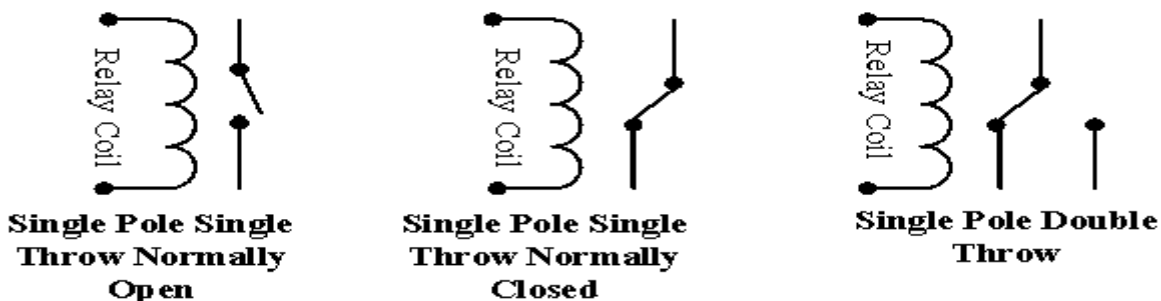

Fig. 3.6: Relay Configurations
- Figure 3.6 shows widely used relay configurations for embedded applications.